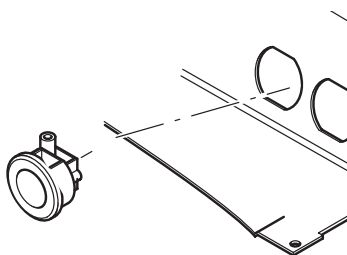

Fig. 9
10. Route the wiring from the Outdoor Sensor to the boiler, and using the cable grommet supplied (Fig. 9) pass it through the hydraulic panel at the lower right.